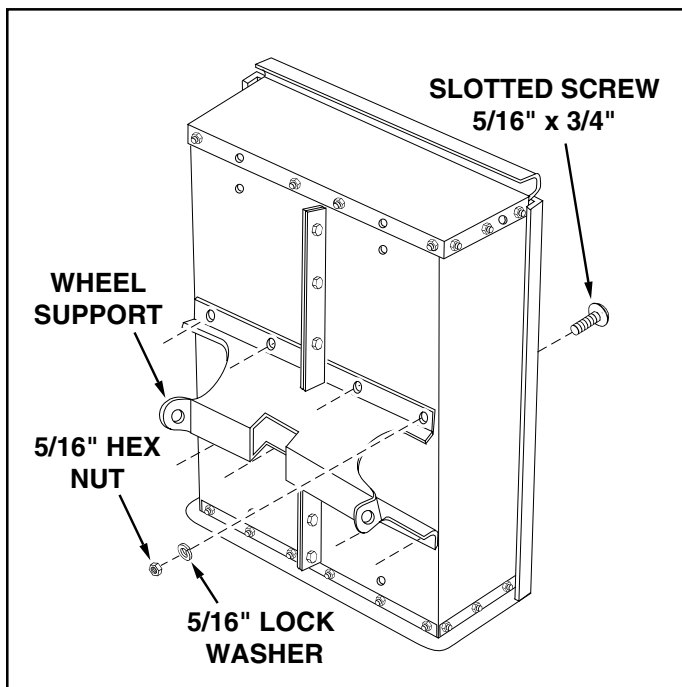

FIGURE 6
10. Assemble the wheel support to the cart using eight 5/16" x 3/4" slotted head screws, 5/16" lock washers and 5/16" hex nuts as shown in figure 6. Heads of screws go to the inside of cart. **Tighten**. Heads of screws go to the inside of cart. **Tighten**.